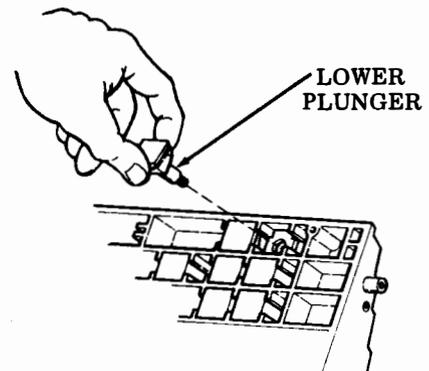

Fig. 44—Lower Plunger Removal
- (a) With the circuit card assembly removed, depress the keytop of the plunger mechanism to be removed. The lower plunger assembly will disengage with the housing and can be removed. (Fig. 44).